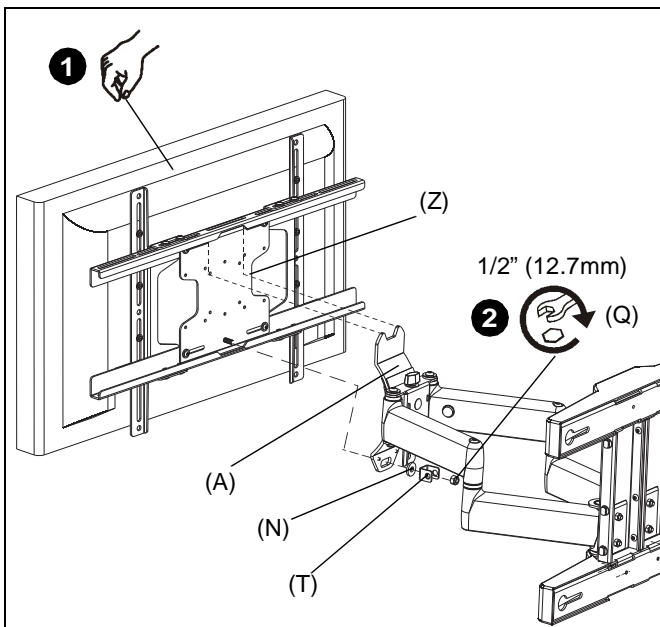

Figure 10
1. Align slots on upper portion of faceplate (Z) with tabs on upper portion of arm assembly (A). Lower display into place, pivoting threaded stud on faceplate (Z) into slot on arm assembly (A). (See Figure 10)
2. Install spacer (N), locking bracket (T), and nut (Q) onto threaded stud. Tighten securely. (See Figure 10)